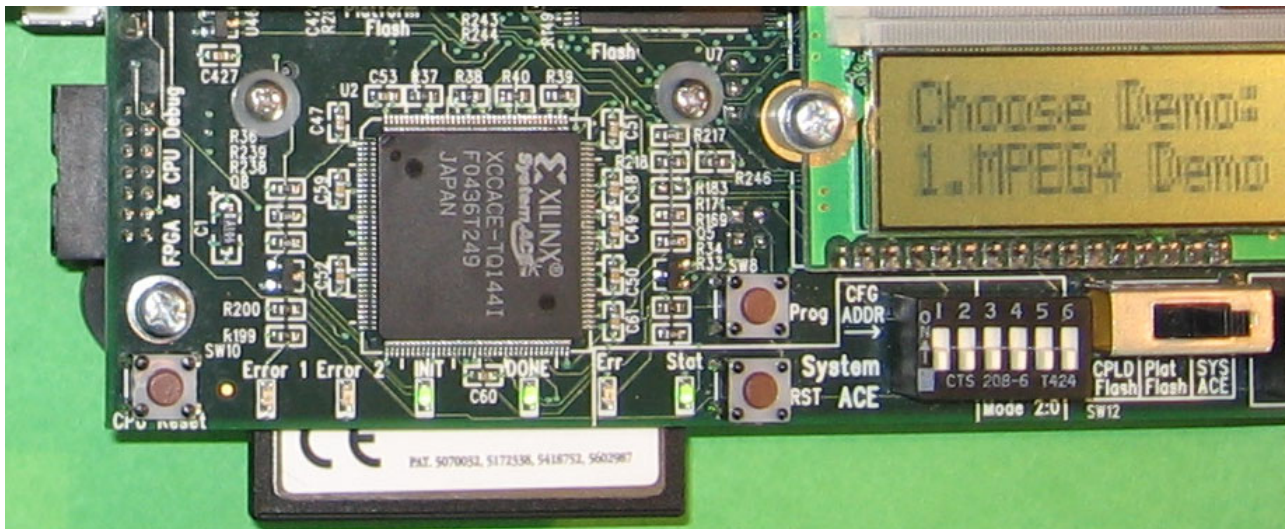

Figure 2: **ML402 Configuration Settings for Configuration from Compact Flash Memory**
1. With power off, insert the Compact Flash memory card into the connector underneath the ML402 board (Figure 2).
3. Verify that the System Ace CFG ADDR dip switch settings are set to off:off:off (or 000). The CFG ADDR dip switch bits are the three leftmost bits of the System Ace dip switch. This boots the ML402 and VIODC from configuration 0, which contains a bootloader program that allows either of the two demos to be selected. These settings are shown in Figure 2.